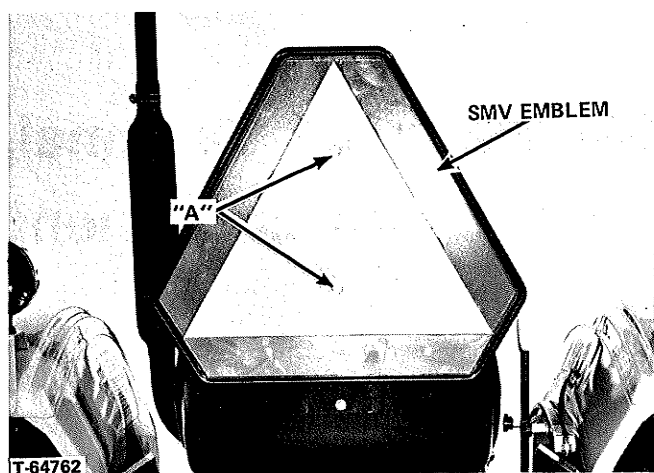
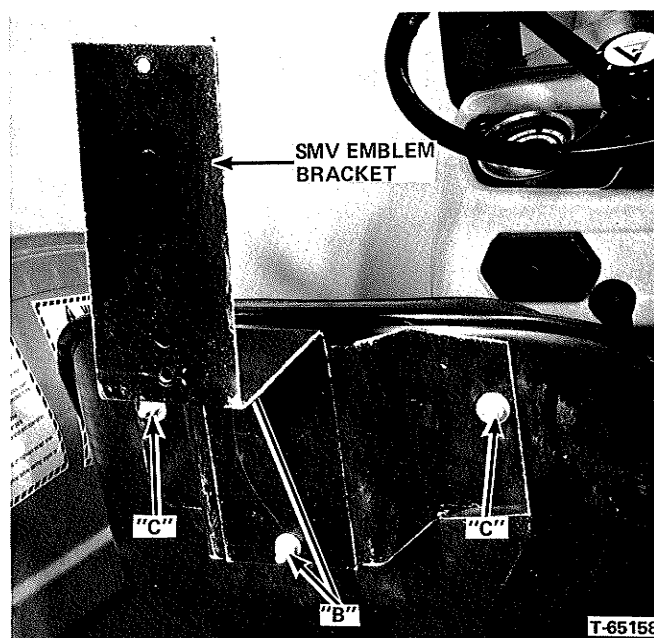

FIGURE 1
FIGURE 2
1. Remove the SMV emblem from its bracket by removing bolts "A", Figure 1. Remove bolts "B", Figure 2 and separate the SMV emblem bracket from the seat bracket. Remove nuts and washers at "C" and remove the seat bracket from the rear of the tractor seat and set it aside for possible future use if tractor is used without protective frame. Reinstall the nuts and washers at "C" on the bolts in the seat back and tighten securely.